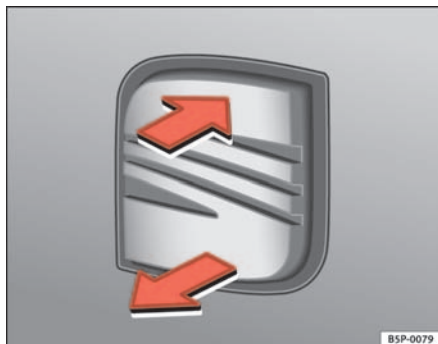
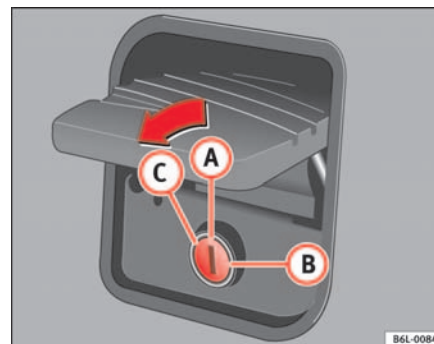

Fig. 50 Tailgate: Opening from the outside
Fig. 51 Closing the tailgate
- Pull on the release lever and lift the tailgate \Rightarrow fig. 50. The keyhole should now be in a vertical position \Rightarrow fig. 51 **a**.
When the keyhole **a** \Rightarrow fig. 51 is in a vertical position, the tailgate will open and lock automatically using the central locking system. Also, the tailgate may be opened and locked using a key.
When the keyhole is in a horizontal position **b** \Rightarrow fig. 51, if the tailgate is closed it remains locked and can only be opened using the main key.
To open the tailgate the key must be turned all the way **c** \Rightarrow fig. 51, in the direction of the arrow. In this position the key may not be removed from the lock.